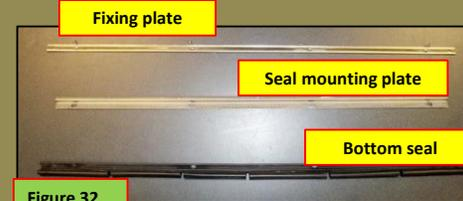

Figure 32
4. Carefully remove the fixing plate, seal mounting plate and the lower seal from the door, Take note on how the pieces fit onto the door. This will make assembly less complicated; see Figure 32.